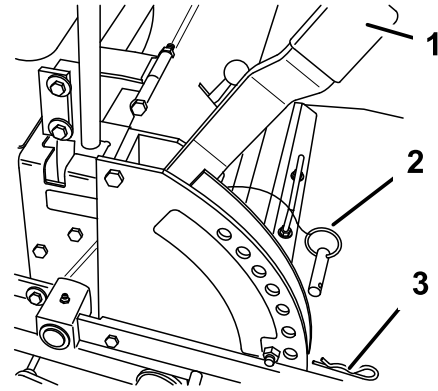

Figure 13
1. Raise the height-of-cut lever to the transport position (also the 4-1/2 inch (114 mm) cutting height position) (Figure 13).
2. To adjust, remove the hairpin cotter and clevis pin from the height-of-cut bracket (Figure 13).
3. Select the hole in the height-of-cut bracket corresponding to the height-of-cut desired, and insert the clevis pin (Figure 13).
4. Secure the clevis pin with the hairpin cotter (Figure 13).